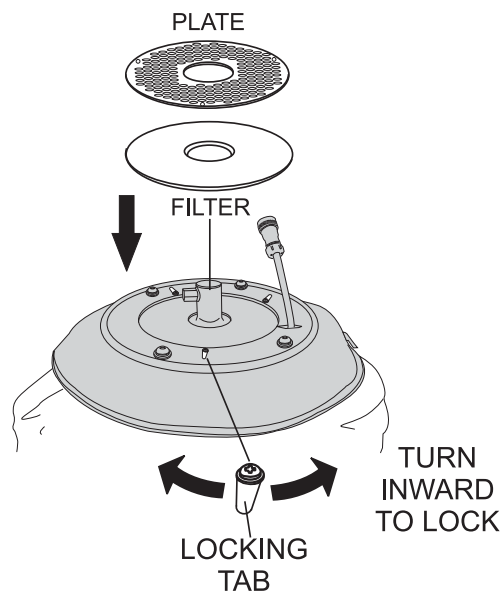

Figure 43. Filter/Plate Install
6. Turn the three retaining tabs (Figure 43) outward so that they touch the lamp base.